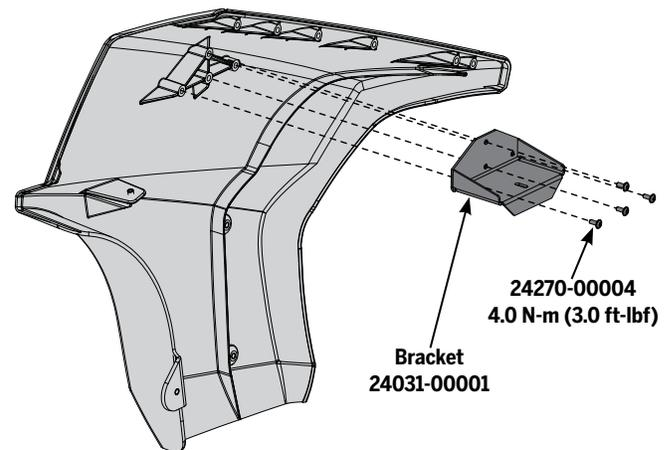

Figure 29: Side Panel Bracket
2. If the Side Panel Bracket is not already installed, install it now. Using a 4 mm hex wrench, install the four fasteners as shown in **Figure 29**. Torque to **4.0 N-m (3.0 in-lbf)**.